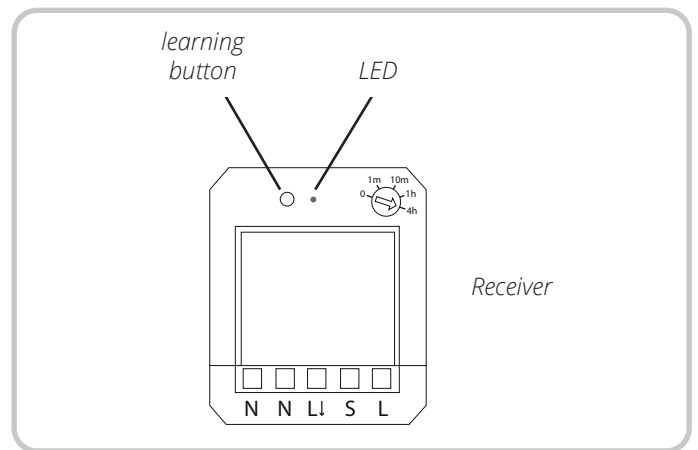

Fig. 9
- Press the learning button for approximately 1 second. The LED flashes slowly to indicate learning mode (see Fig. 9).
- The LED flashes quickly to indicate that learning has been successful (see Fig. 9).
- The LED flashes slowly to indicate learning mode (see Fig. 9).
- The LED flashes fast to indicate deletion has taken place (see Fig. 9).
- The LED flashes slowly for approximately 3 seconds (see Fig. 9).
- Release the learning button and do a quick press. All the links are now deleted (see Fig. 9).
Learning mode is interrupted automatically after 1 minute, regardless of whether anything has been learned. The LED goes out (see Fig. 9).
Learning mode is interrupted by briefly pressing the learning button (< 1 sec.). The LED goes out (see Fig. 9).